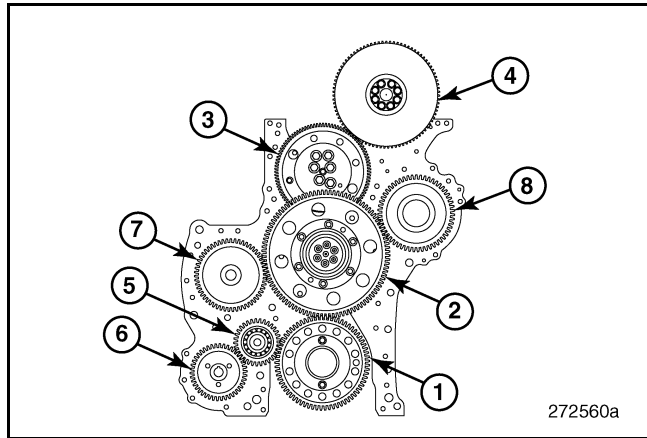

Figure 291 — Adjustable Idler Gear
3. Assemble the adjustable idler gear (item 3 in Figure 291), hub, bushing, thrust washer and fasteners on the plate. Hand tighten the fasteners.